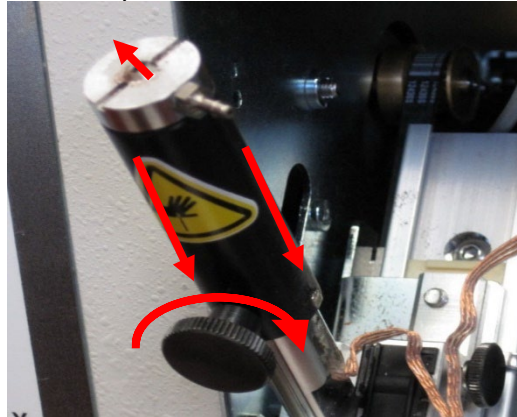

Figure 31
- 8.8. Compress the Needle Spring and Probe Tube housing (pressing down) until the Needle Tip is slightly exposed through the silver portion on top of the Probe Tube. Turn the large Thumbscrew in a clockwise direction until the Thumbscrew is secured by hand. Do not overly tighten the Thumbscrew. Release the tension on the Probe Tube and allow the Needle Tip to return to a safe position within the Probe Tube. Figure 31